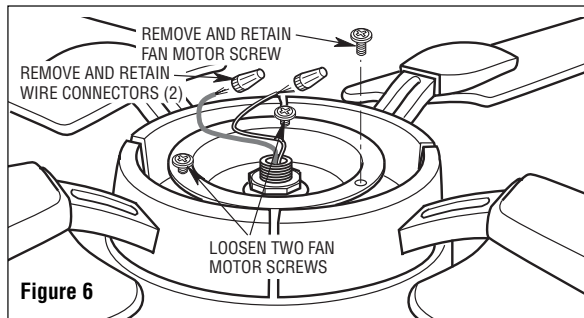

Figure 6
3. Remove one of the fan motor assembly screw (and retain for later use) and loosen the two other screws for installation of the light kit plate assembly (Figure 6).
4. Remove and retain the wire connectors from the white and blue wires (Figure 6).